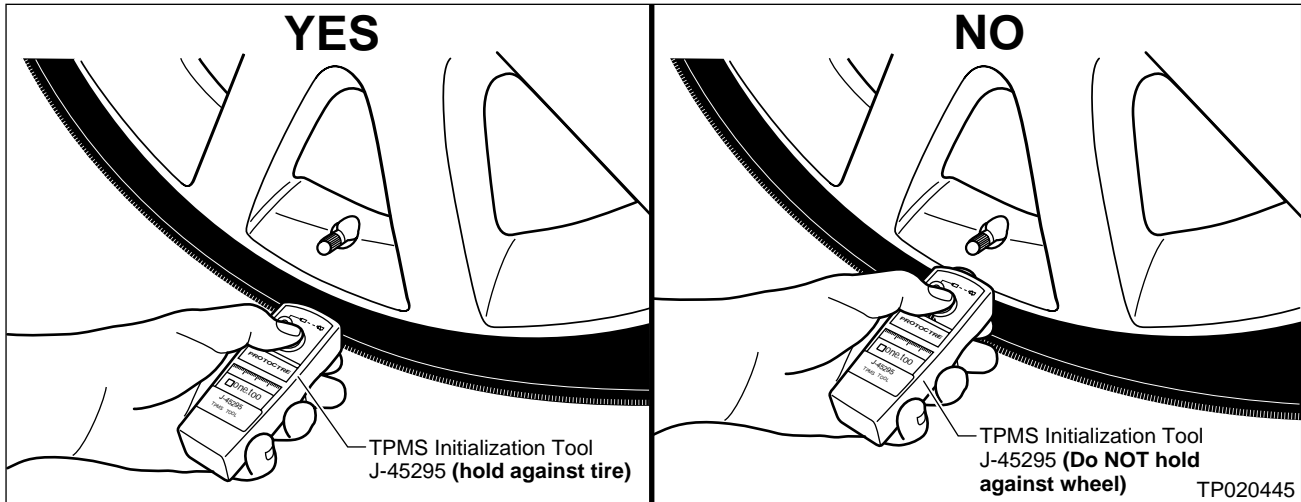

Figure 4
4. **Position** the TPMS Initialization Tool on the **tire** and center it with the valve stem (see Figure 4).